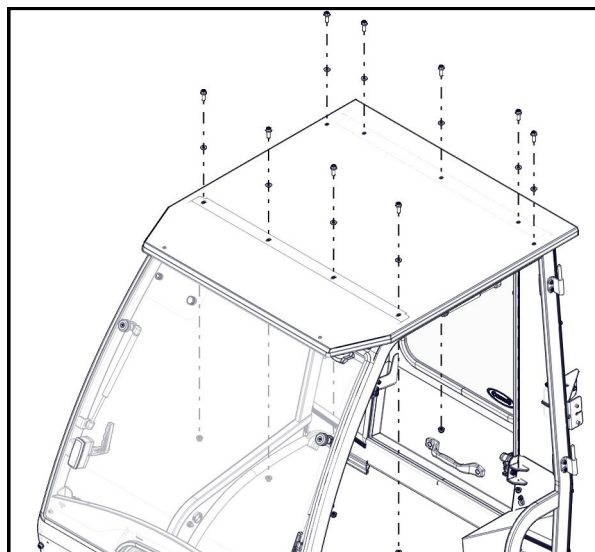

Fig. 15.1 (Roof Installation)
**15.1** With assistance, lift the roof onto the side frames and rear panel header. See Fig.15.1. Move the roof into position, and fasten with bolts, plastic washers, and nuts. Clamp rear legs to rear panel header before tightening hardware fully.